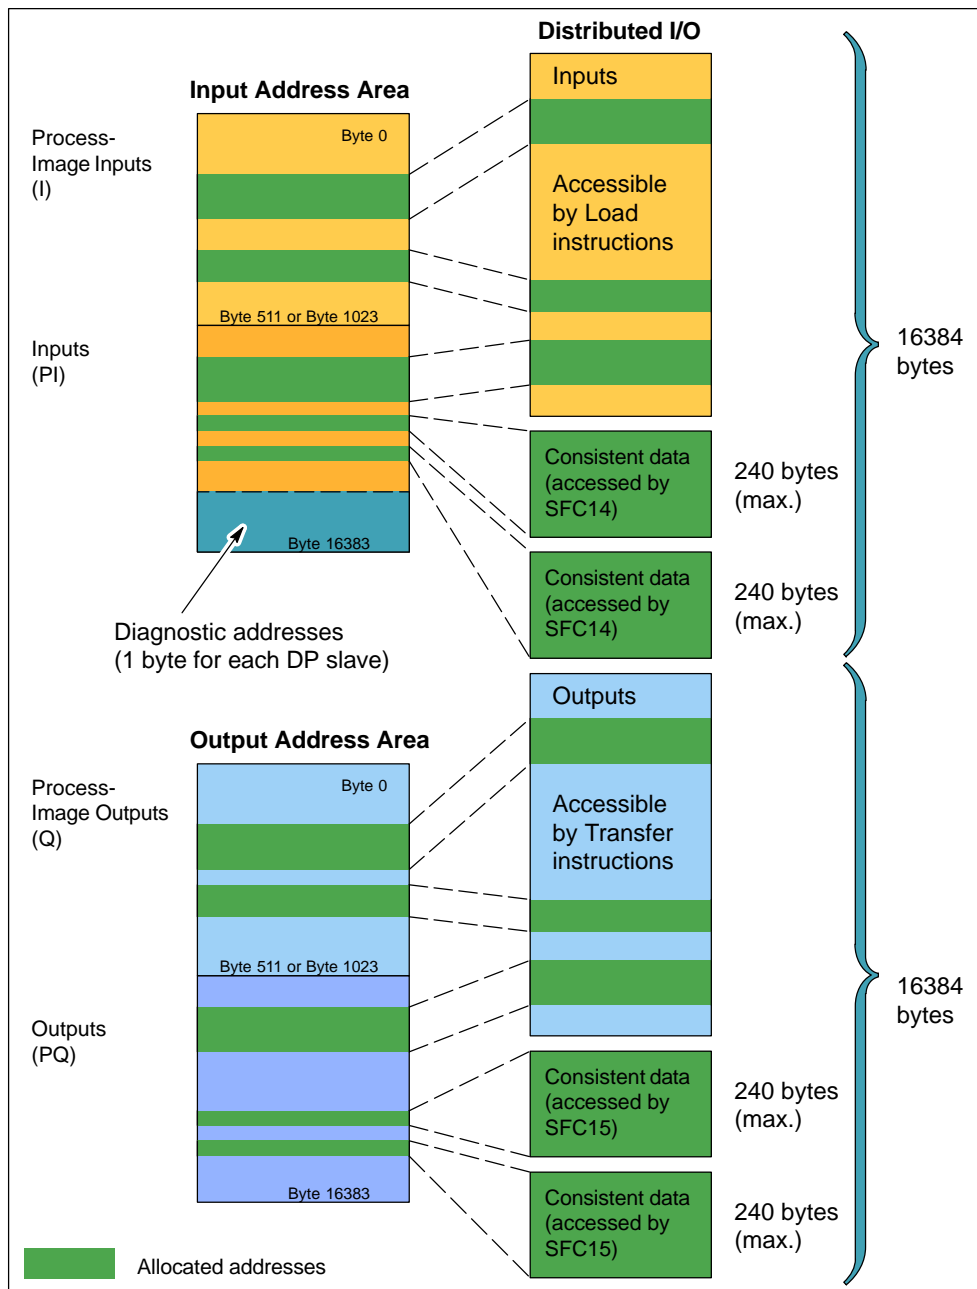

Figure 6-5 Accessing the Distributed I/O
- To access data as bytes, words, or double words (that is, as 1 byte, 2 bytes, or 4 bytes), use the Load (L) and Transfer (T) instructions (for statement list) or the Assign Value (MOVE) instruction (for ladder logic) to read and write the distributed inputs and outputs. See Figure 6-5. I/O data may be accessed from the process image (I) area or from the peripheral image (PI) area.
As shown in Figure 6-5, the user program can access up to 16384 bytes (each) of inputs and outputs by using the Load (L) and Transfer (T) instructions (for statement list) or the Assign Value (MOVE) instruction (for ladder logic).